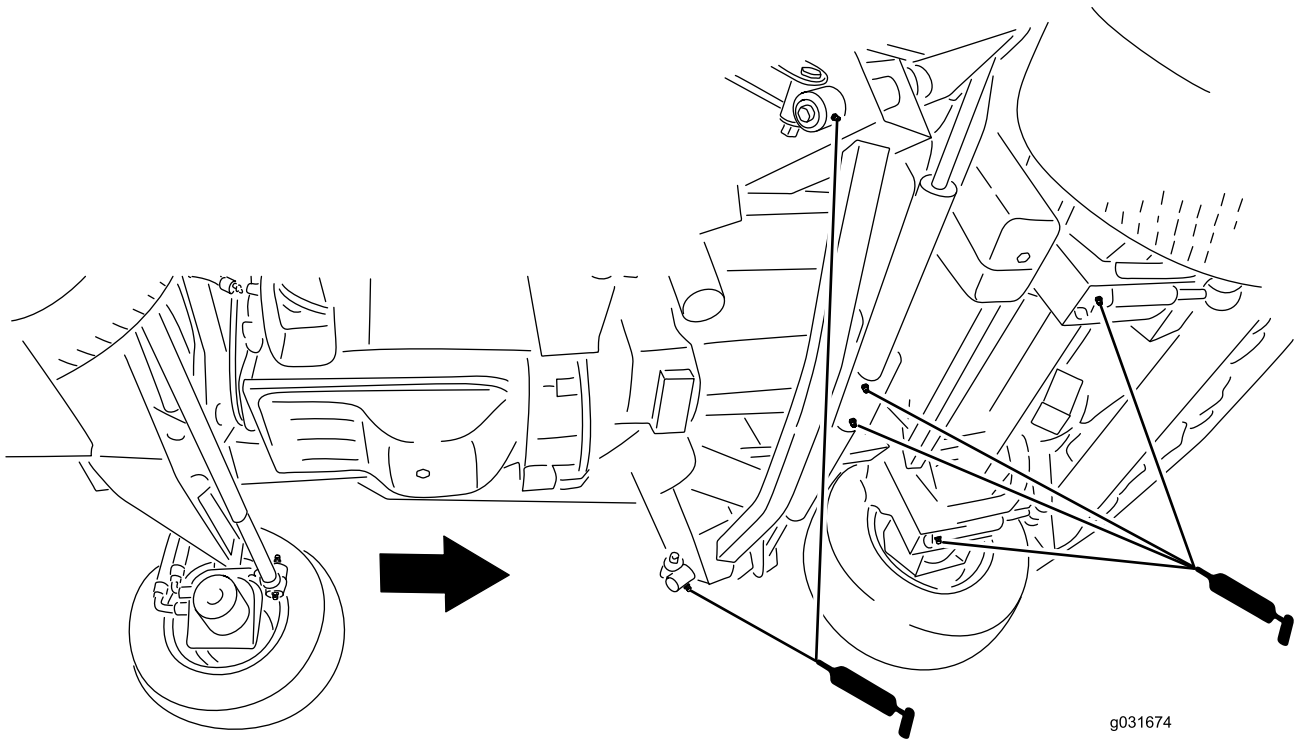

Figure 86
- 2 impact arms (Figure 86)
- 2 front deck-lift-cylinder pivots (Figure 86)
- 2 side deck-lift-cylinder pivots (Figure 86)